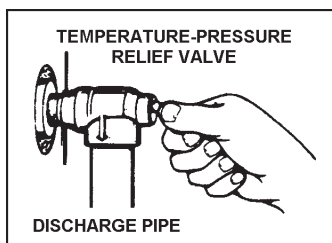

FIGURE 22.
When checking the temperature-pressure relief valve operation, make sure that (1) no one is in front of or around the outlet of the temperature-pressure relief valve discharge line, and (2) that the water discharge will not cause any property damage, as the water may be extremely hot, see Figure 22.